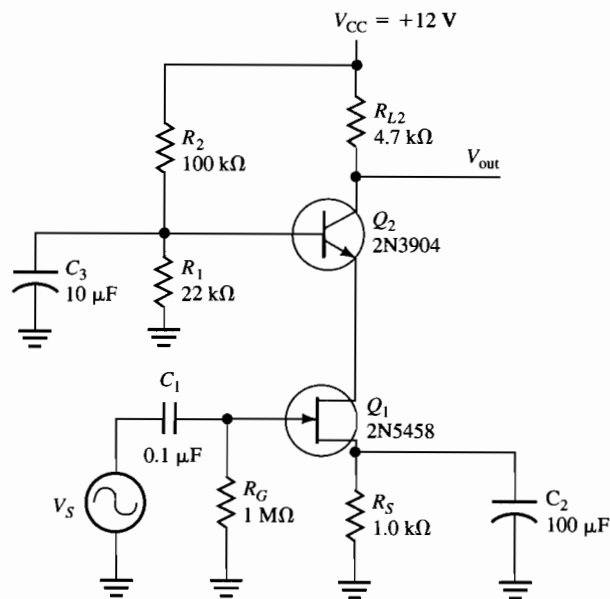

Figure 40–5
4. Assume the bifet amplifier in Figure 40–4 has no output signal. In testing the dc conditions, you find that the emitter of Q_2 is at +12 V. What could account for this?
The bifet amplifier in this experiment was connected in *cascade*, which means that stages were connected in series. An interesting variation of the bifet amplifier is to connect it in *cascode*. In this configuration, the drain of the FET supplies ac signal current to the emitter of the next stage. The second stage is a common-base amplifier. While the overall gain is not high, the advantage of the cascode connection is that it has a higher frequency response than the cascade connection. Construct the cascode amplifier shown in Figure 40–5. Set the signal generator for a 1.0 V_{pp} input signal. Test the dc and ac parameters and submit a laboratory report describing your findings.